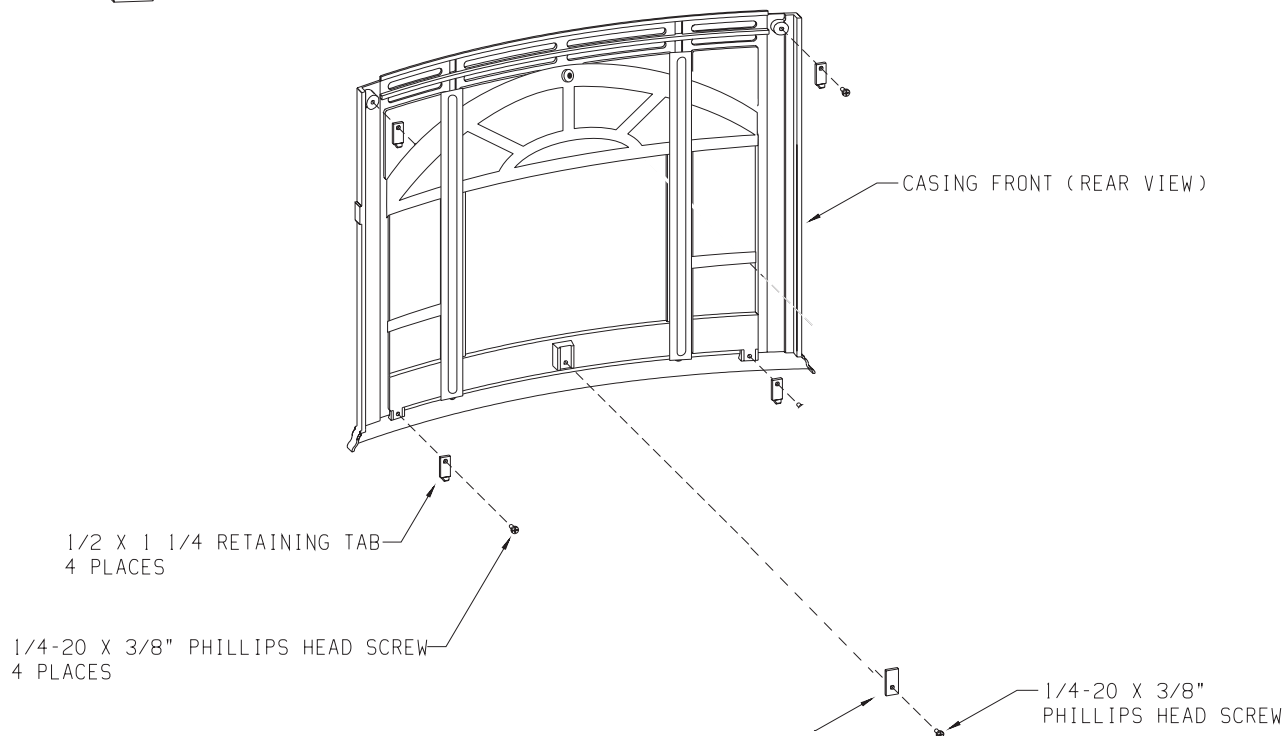
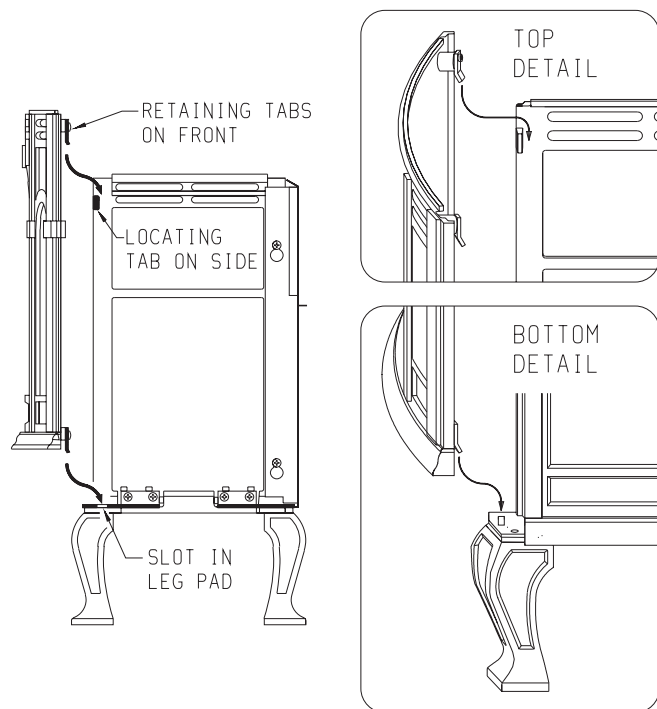

Figure 8
Figure 9
- C. Removing protective packaging from casting front and window (Figure 8).
- D. Assembly of front by attaching retaining tabs and placing front on unit (Figure 8 and Figure 9).
9. Refer to Figure 8, remove protective packing foam from casting front and window. Remove the (1) 3/4" bolt and (1) 1/4" washer from top of window. Remove (1) 3/8" bolt and 1 - 5/8" x 3/4" retaining tab from bottom of window. Remove the window from casting front. Remove the protective sheet of foam from the casting front.
10. Refer to Figure 8, attach the (4) 1-1/4" x 1/2" retaining tabs to the casting front with (4) 3/8" bolts. The retaining tabs should be positioned downward, from the casting front, top to the casting front, bottom.
11. Refer to Figure 9, attach casting front to casting by using the (4) retaining tabs on the casting front. The (2) top, retaining tabs on the casting front will be placed behind the (2) top, locator tabs on the front of the casting sides. The (2) bottom, retaining tabs will be inserted into the (2) 9/16" slots on the front, leg pads. Place the top, retaining tabs behind the top, locator tabs as you pivot inward the bottom of the casting front in order to insert the bottom, retaining tabs into the slots.